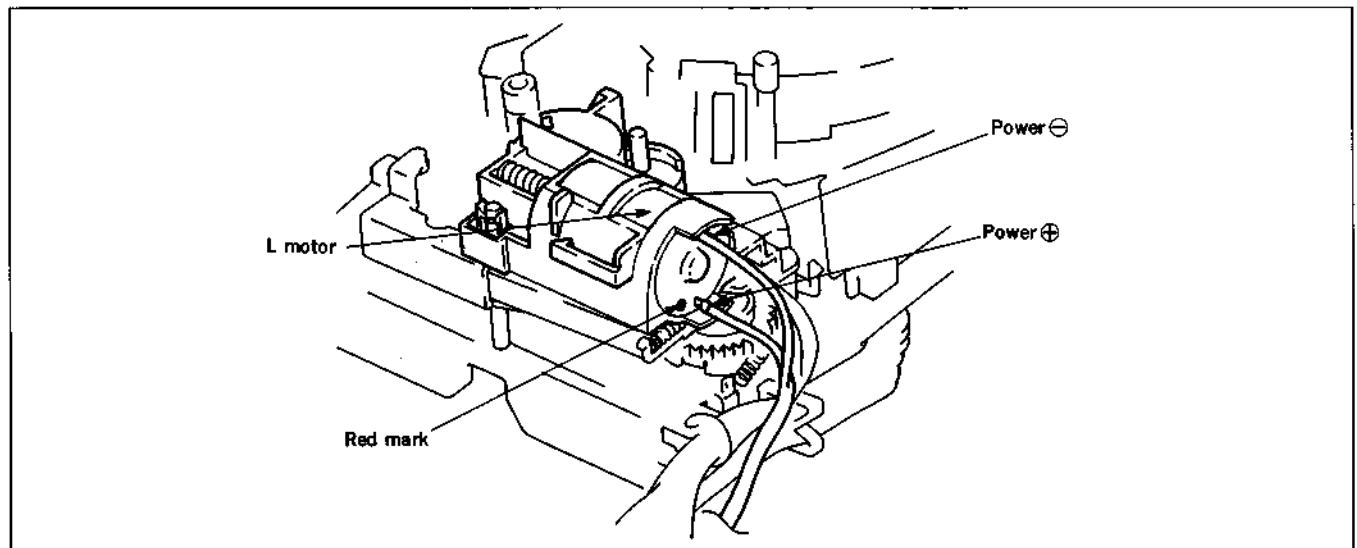

Fig. 7-3. How to thread/unthread tape manually (1)
- 1) With a DC regulated power supply, by applying a voltage of 7 to 10V across the power terminals of the L motor (see Fig. 7-3.), the tape can be threaded. (The red mark